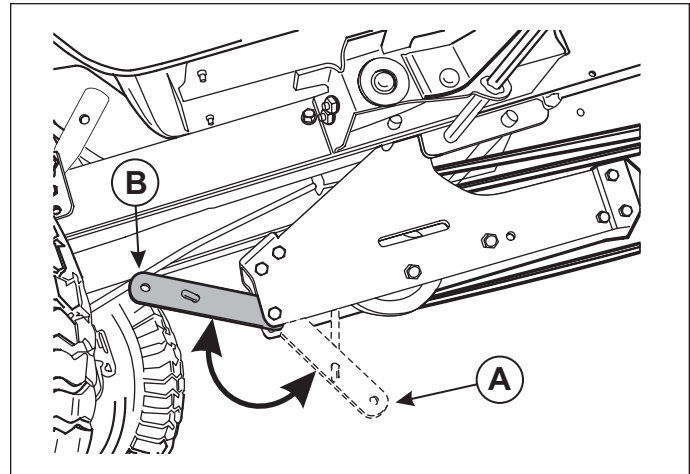

Figure 22. Belt Tension Lever
4. Move the belt tension lever to the RELEASED position (A, Figure 22).